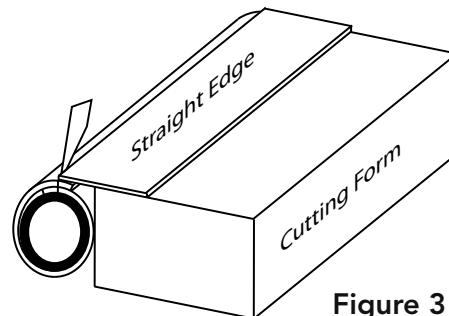

Figure 3
11. Create the cutting form. See figure 3.
form and blank up against the Cutting Form with the overlap up. See figure 3.